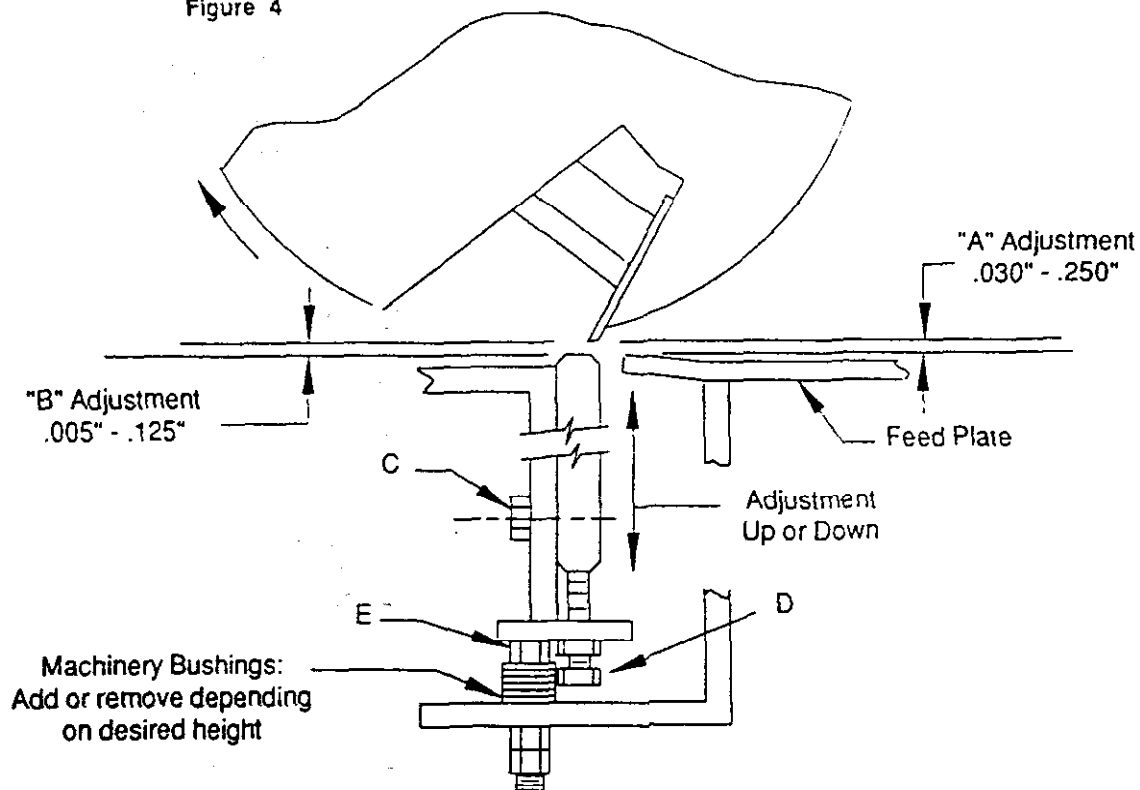

Figure 5
CUTTER BAR (Fig. 5)
FEED PLATFORM (Fig. 5)
5. Adjust the feeder platform and cutter bar if needed. See Fig. 5.
9. Adjust the feed platform. (See Fig. 5)
10. Adjust the cutter bar. (See Fig. 5)